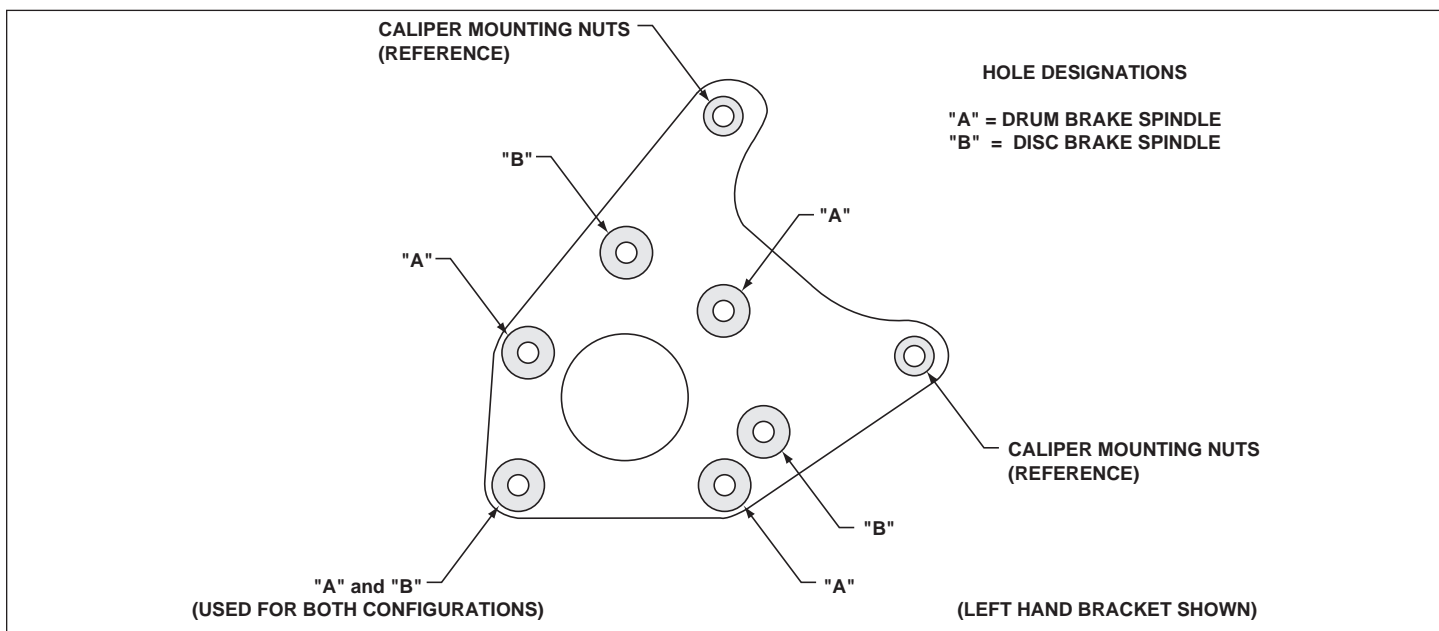
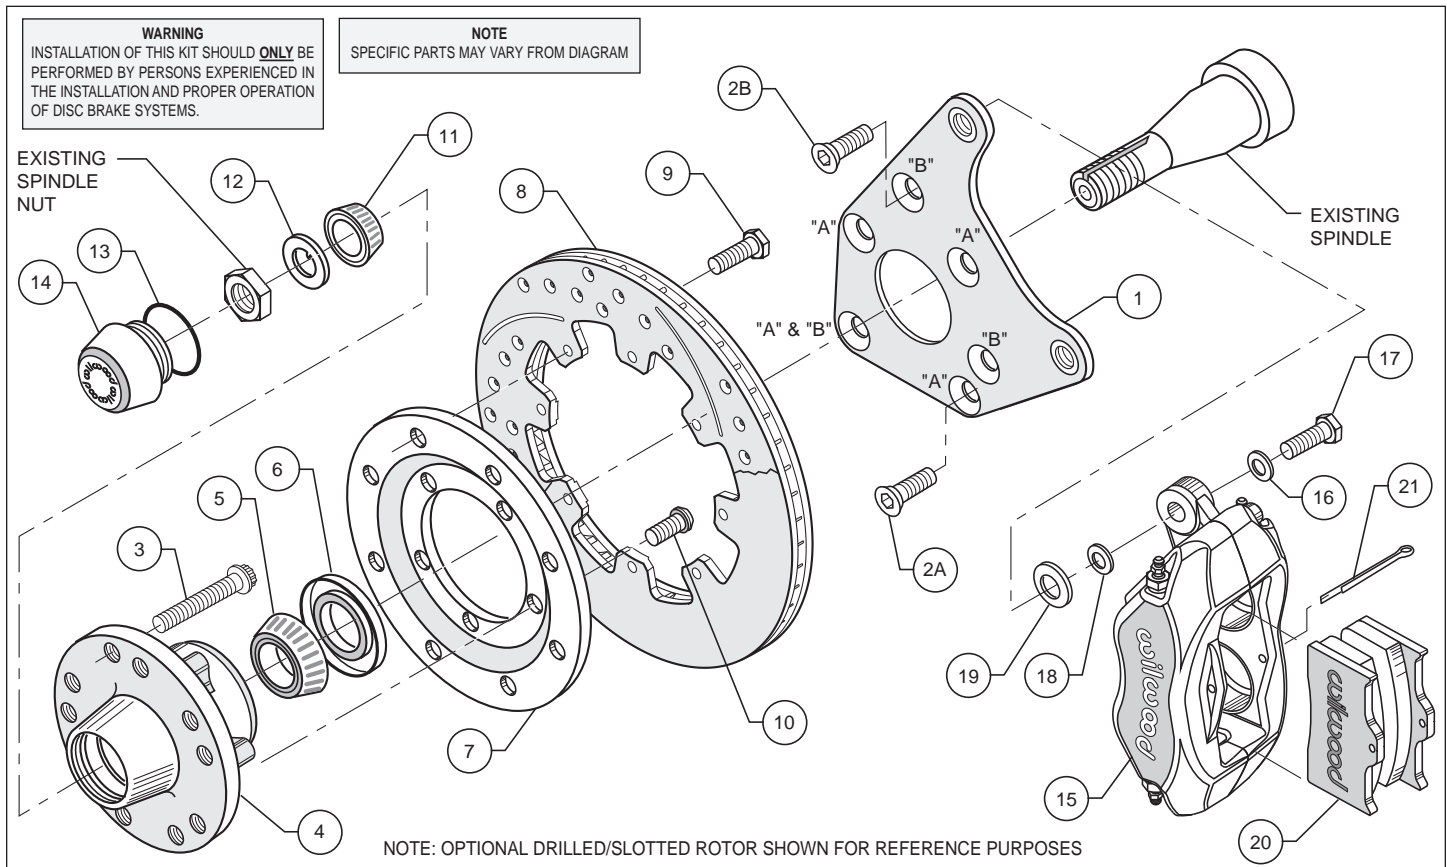

Figure 1. Wilwood Caliper Mounting Bracket
Figure 2. Typical Installation Configuration
This kit has been designed for use with both the disc brake or the drum brake configuration of vehicle. The only difference is in how the Wilwood caliper mounting bracket is installed. The same bracket is used for both configurations; the disc brake version utilizes three mounting holes while the drum brake application uses four mounting holes (see Figure 1). For your convenience we have supplied bolt kits for both applications (see parts list and Figure 2 as necessary, item(s) 2A and 2B). Use the bolt kit that is applicable to your vehicle and disregard the other one.
These modifications should be performed by a qualified machinist and completed before assembly of the Wilwood disc brake kit begins. Using the caliper mounting bracket as a template (refer to figure 1 as necessary), locate and verify the three original stock holes on the steering arm that need to be modified. Drill a .332 diameter hole through all three holes, then tap 3/8-24 UNF (fine thread). Countersink the holes to .438 x 90°.
- As mentioned before, this kit uses the same mounting bracket (1) for both the drum and disc brake spindle. The drum version utilizes four mounting bolts (designated with a "A"), while the disc only requires three (designated with a "B"). Refer to figure 1 and figure 2 as required for the basic installation position of the bracket and the "A" and "B" reference designations (these designations are not physically marked on the bracket, they are referenced on the drawings for your convenience) and align using the three or four holes (as applicable) to the face plate of the steering arm. Install bolts (2A or 2B) through caliper mounting bracket (1) into steering arm, finger tighten only. After you are positive of the bracket (1) alignment, remove the mounting bolts (2A or 2B) one at a time and Apply red *Loctite*® 271 to bolt threads (2A or 2B), then reinstall. Torque bolts 2A or 2B to 30 ft-lb. **NOTE:** Be sure the heads of the bracket (1) insert nuts are facing outward toward the wheel.
- Install wheel studs (3) into the hub (4). Torque to 77 ft-lb. **NOTE:** There are two (2) five lug patterns in the hub (5 x 4.50 and 5 x 4.75). Make sure of the correct hole pattern for the correct wheel application before installing studs into hub.
- Mount the adapter/rotor assembly (7/8) to the hub (4) using bolts (10), as shown in Figure 1. Using an alternating sequence, apply red *Loctite*® 271 to the threads, and torque to 55 ft-lb. Safety wire bolts as shown in Figure 4.
- Pack the small outer bearing cone (11) with high temperature disc brake bearing grease and install into front of hub (4). Slide the hub/rotor assembly (4 and 8) with outer bearing cone (11) onto the spindle. Secure using spindle washer (12), stock adjusting nut and nut locking device. Adjust bearings per Original Equipment Manufacturer (OEM) specifications.
- Install the o-ring (13) and then the dust cap (14) onto the hub (4). Friction created by the o-ring (13) on the dust cap (14) keeps it from unscrewing.